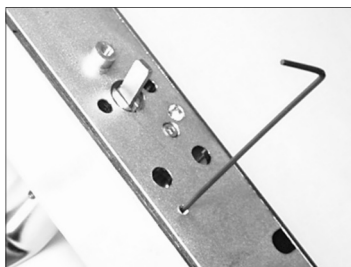

Fig. 1c: Use 1/16" hex wrench to screw in the cylinder back stop screw
- 1c. **Remove the key. Use a 1/16" hex wrench to screw the cylinder back stop screw in fully.** (See Fig. 1c) The key should now only rotate counter-clockwise.